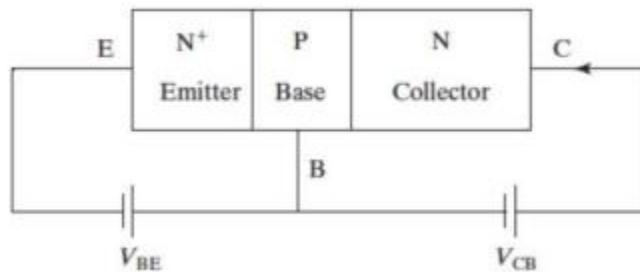

Figure 2: Geometry of the BJT and biasing for operation in Active region
BJTs are devices composed of two PN junctions sharing a thin base region, as shown in Figure 2. In an NPN BJT operating in the active region, the base-emitter (BE) junction is forward-biased, and the base-collector (BC) junction is reverse-biased. Electrons injected from the emitter into the base diffuse across the base and are collected at the BC junction. This process generates the collector current (I_C), which is primarily determined by the base-emitter voltage (V_{BE}). Simultaneously, a base current (I_B) flows due to holes injected into the emitter.